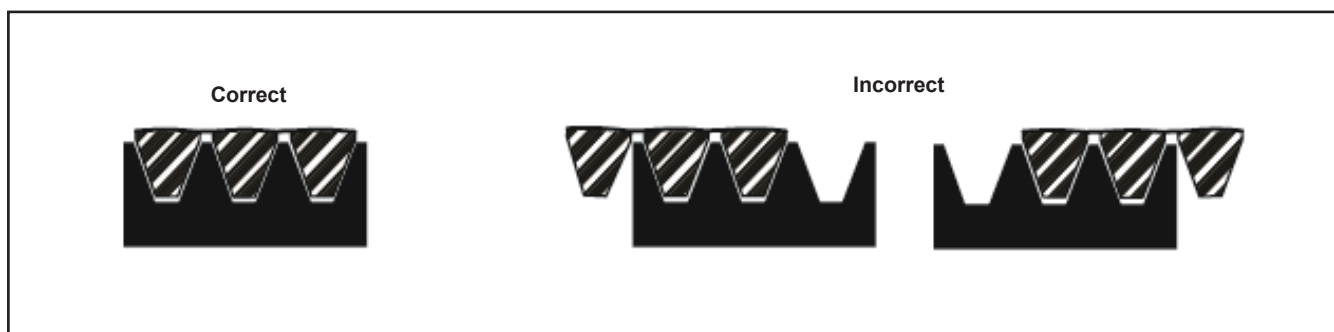

Figure 33 Belt Alignment
5. Make sure that the belt is properly aligned with the grooves on each pulley. See Figure 33.